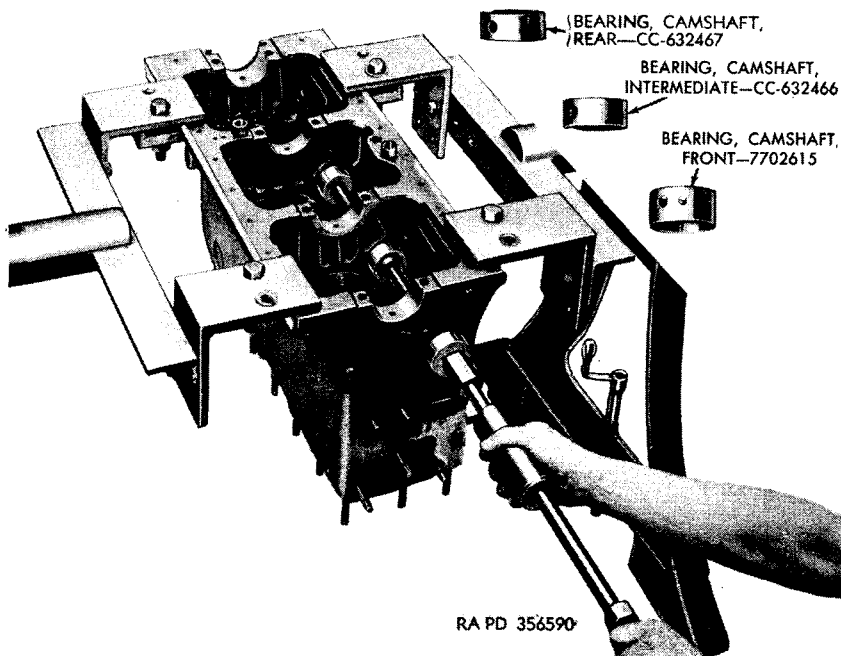

Figure 87. *Installing camshaft bearings with remover and installer 41-R-2386.*
- (1) Mount the cylinder block in an engine stand and install the correct size adapter for camshaft bearing remover and installer 41-R-2386 (fig. 87) in each of the two intermediate bores.